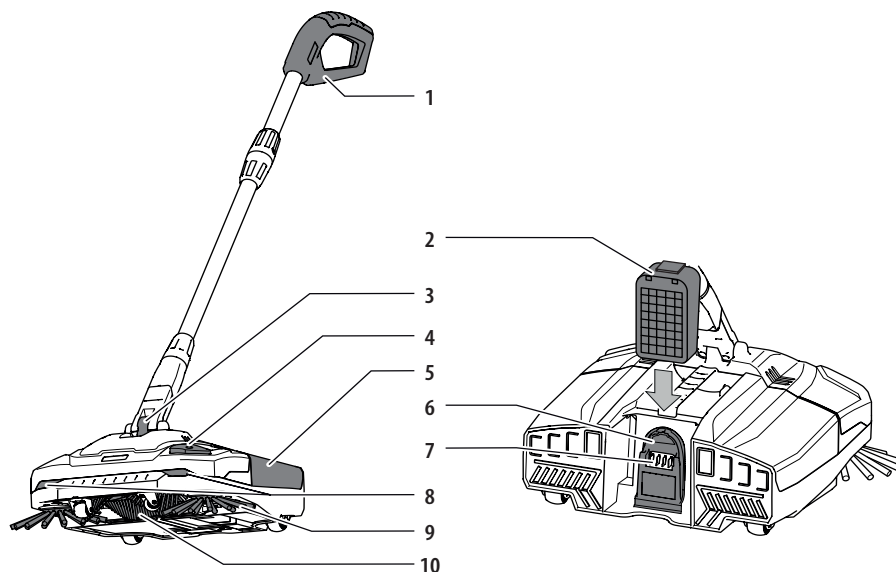

Fig. 1: Cordless sweeper in working position
- In the working position, the handle is freely movable (see Fig. 1).
- Slide the battery pack into the battery mount on the device until the battery pack engages with a click (see Fig. 1).
4. Place the cordless sweeper in the working position (see Fig. 1).